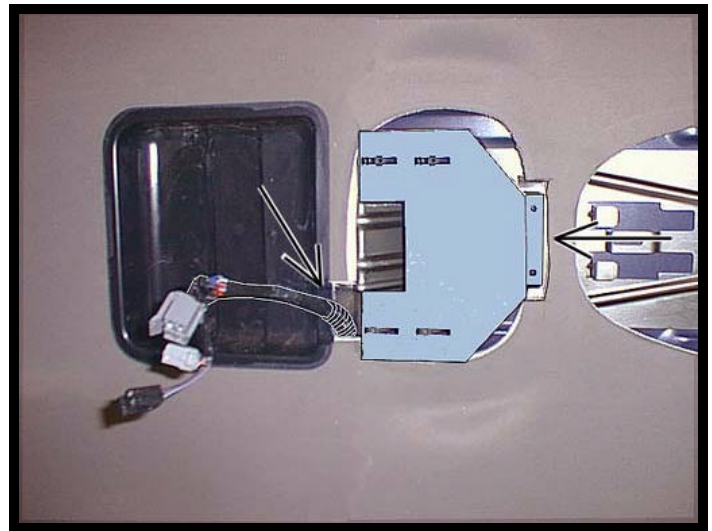

Figure 5
4. Detach wire harness from brace where A/C assembly was removed. Remove and retain two (2) OEM screws. Trim headliner to clear front flange of rear mounting bracket (item 17 pg 2) Insert rear mounting bracket tabs in existing slots on rear of OEM brace. Align holes of bracket with OEM bracket. Secure with OEM screws. See Figure 5. Route wiring toward driver's side of bracket. Install convoluted tube (item 11 pg 2) around wire harness to prevent chaffing against bracket.